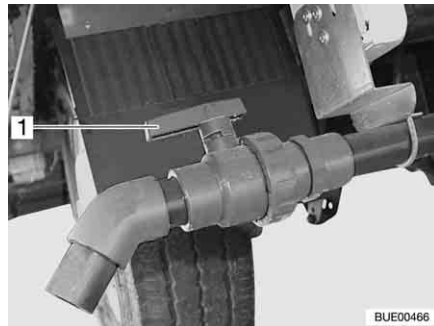

Fig. 240 Drain cock
- Turn the handle (Fig. 240,1) of the drain cock in flow direction.